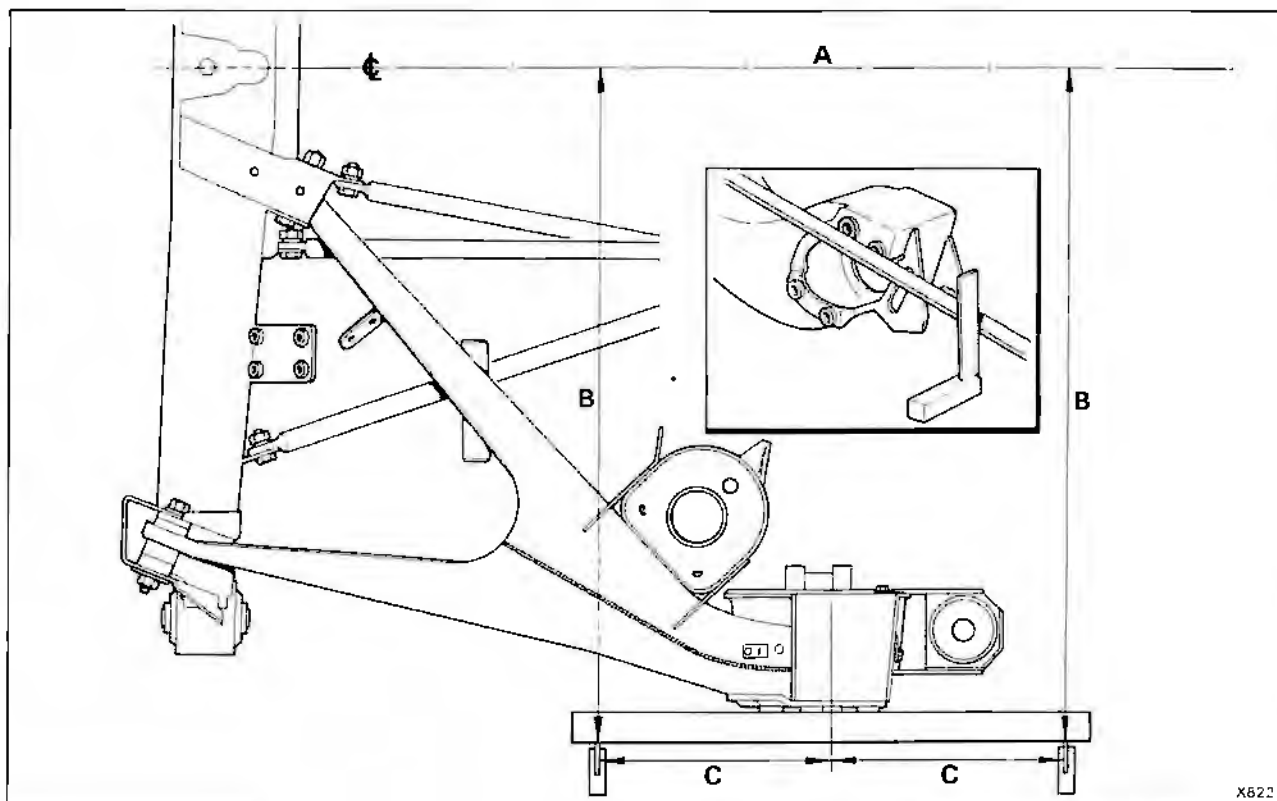

Fig. H11-4 Checking the toe-in setting
Toe-in - To check (see fig. H11-4)
3. Place a straight edge across the hub mounting tubes to give the equivalent of the road wheel rim diameter (see fig. H11-4).
With the aid of a precision square positioned 208 mm (8.20 in) from the centre line of the hub (see fig. H11-4), measure the distance from the base of the square to the centre line marked on the table.